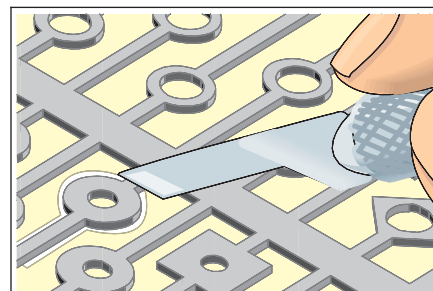

Figure 4 Cut out the new land.
10. Cut out and trim the new land. Cut out from the plated side. Cut the length to provide the maximum allowable conductor overlap for soldering. Minimum 2 times the conductor width. (See Figure 4.)